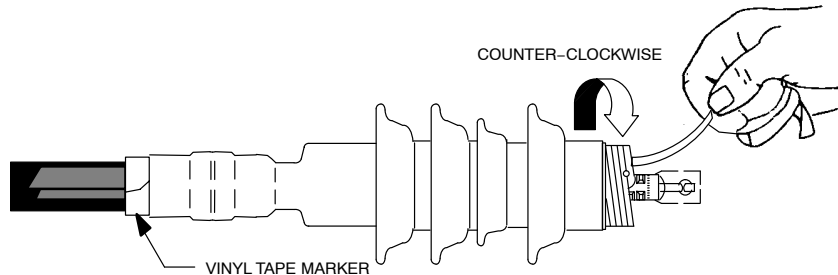

FIGURE 6A
9. Position the terminator body on the cable. The base of the terminator body (not the core), must be butted up to the edge of the vinyl marker tape. Remove the core while unwinding in a counter-clockwise direction. Once the terminator body has made contact over the mastic seal area, there is no need to continue supporting the assembly. DO NOT push or pull the terminator while unwinding the core. See Figure 6A.